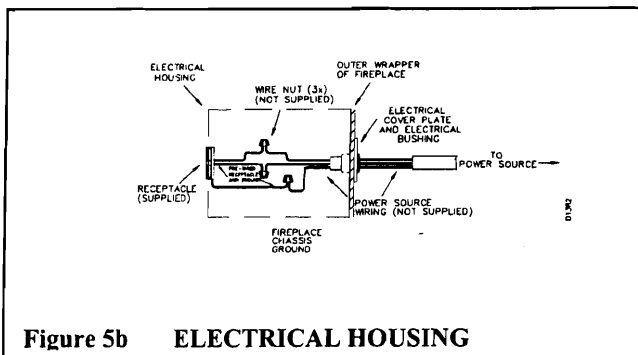

Figure 5b ELECTRICAL HOUSING
- iii. Slide all wiring connections in the electrical housing as shown in figure 5b.